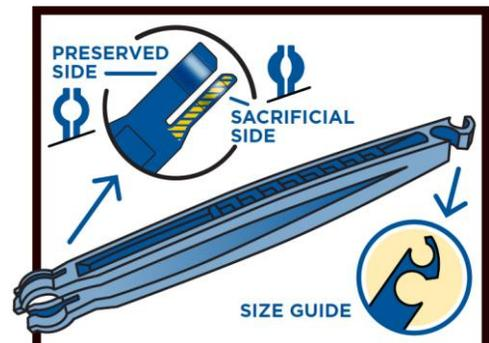

Figure 2
- Each pair of forceps is equipped with a sizing guide (proximal end) and constraining head (distal end) with a sacrificial side, preserved side, and cutting slot (see Figure 2).
- Be aware that the sacrificial side of the forceps head, as indicated with caution lines, has a smaller aperture than the preserved side of the head (see Figure 2).
- Nerve forceps include a sizing guide on the hinged, proximal end of the instrument corresponding to the smallest and largest size nerve diameter intended to be held by each forceps (Figure 2). Initial selection may be based on the estimated nerve diameter. Note the forceps' ranges overlap and are estimates. The sizing guide will be used to confirm appropriate forceps selection.
- The head of the nerve forceps includes a sacrificial and preserved side, separated by the cutting slot (recall Figure 2).